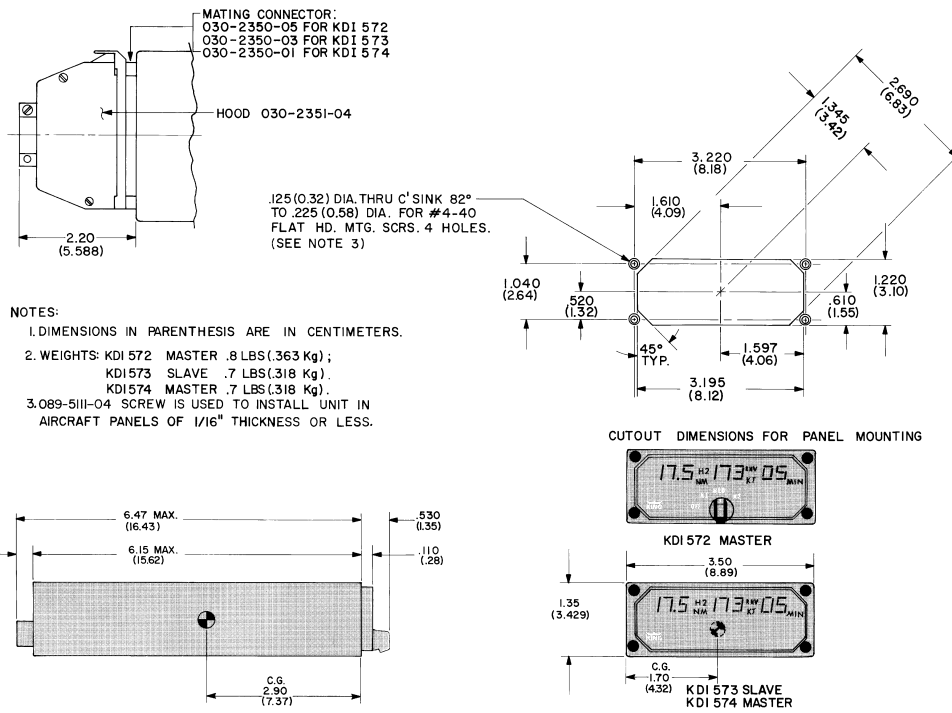

FIGURE 2-3 KDI 572/573/574 INSTALLATION AND MOUNTING DRAWING
2.3.3 KDI 572/KDI 573/KDI 574 INSTALLATION (Figure 2-3)
- E. The indicator is secured in place behind the panel since it is rear mount only. Make panel cutout as shown in Figure 2-3.